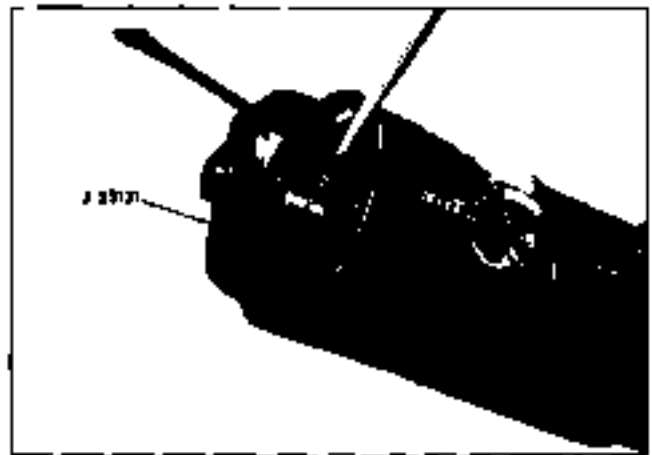
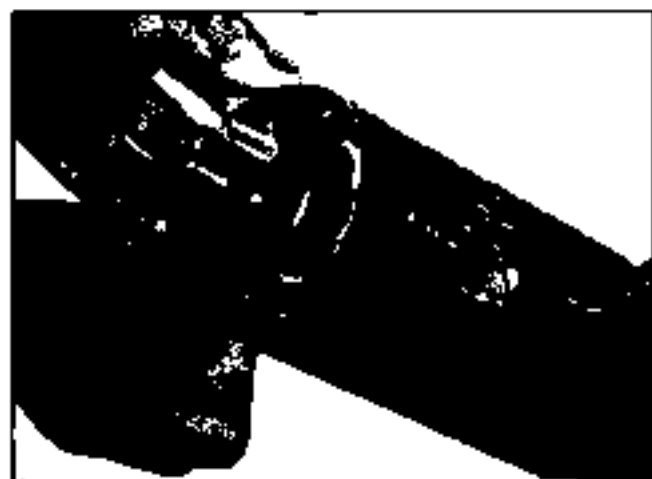

Fig. 9-3 Depressing Lock Plate
Fig. 9-4 Removing Snap Ring and Lock Plate
3. Depress lock plate downward as far as possible using J 23131. Pry the round wire snap ring out of the shaft groove (Fig. 9-3). Remove the snap ring and lock plate (Fig. 9-4). Discard snap ring.